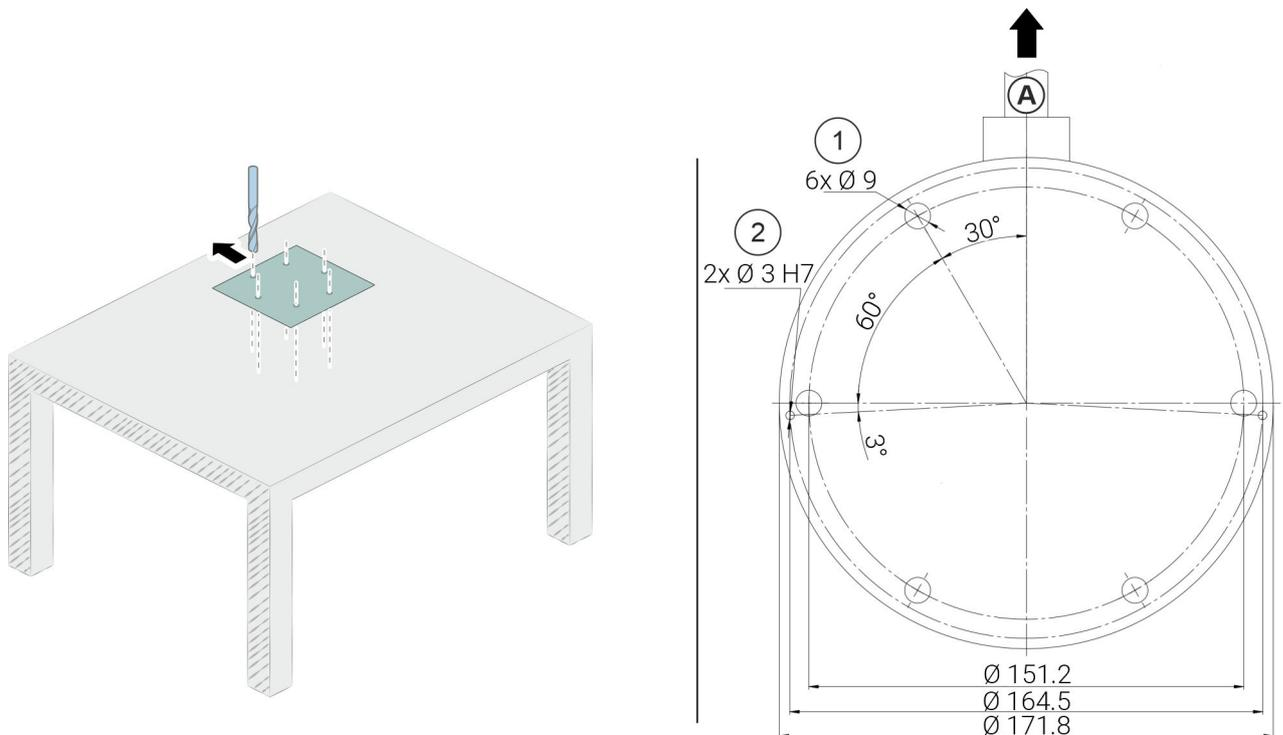

Fig. 44 Robot drilling template
- ① Holes for bolts
- ② Holes for dowel pins
05. Align the robot's drilling template on the edge of the table as shown in Fig. 44 and mark the six drill holes on the table plate.